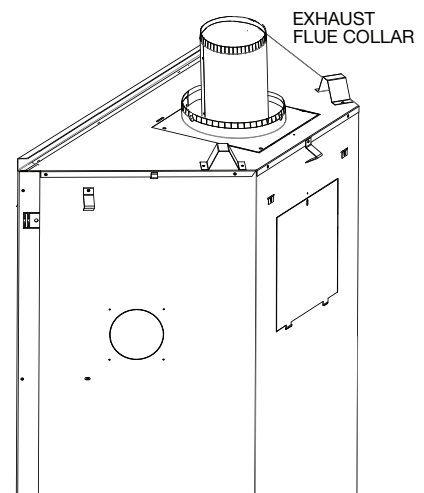

Fig. 3
- From inside the firebox, install the 4" (101.6mm) exhaust collar with gasket up through the top of the firebox, and secure with the 4 hex head 3/4" black screws supplied in the manual baggie (**Fig. 3**).